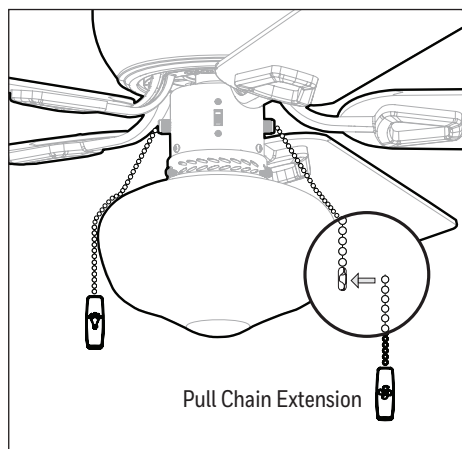

Figure 4.8
8. Attach pull chain extensions to the pull chains. **Note:** When facing the reverse switch, the fan pull chain is on the right and the light pull chain is on the left (Figure 4.8).